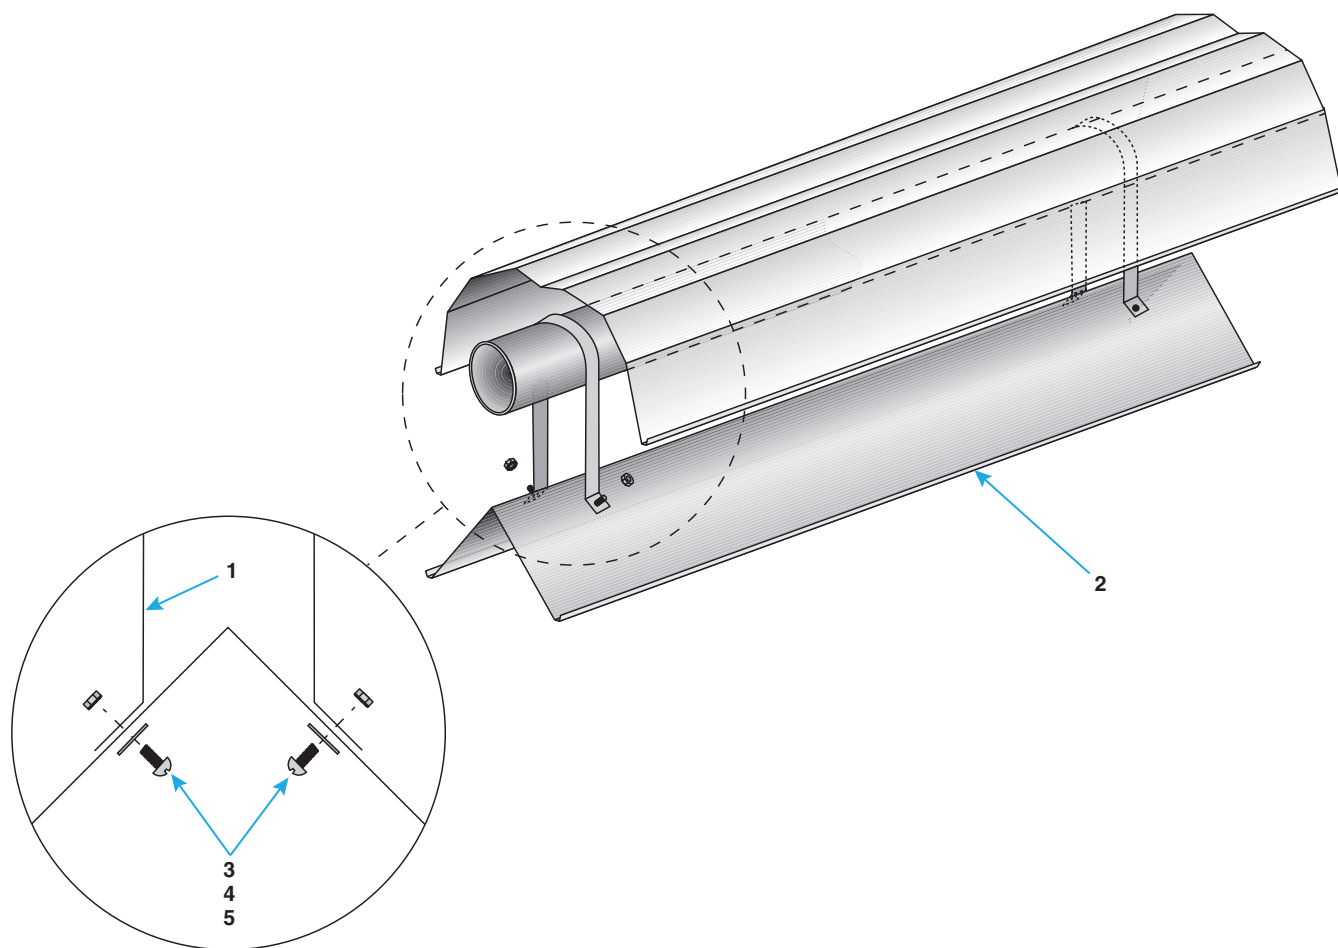

Figure 2. Protective Shield Kit Installation
1. Loop support straps (1) around burner tube as shown in Figure 2.
2. Align support strap (1) holes with holes in protective shield (2) and secure straps to shield using screws (3), flat washers (4), and locknuts (5) as shown in Figure 2.